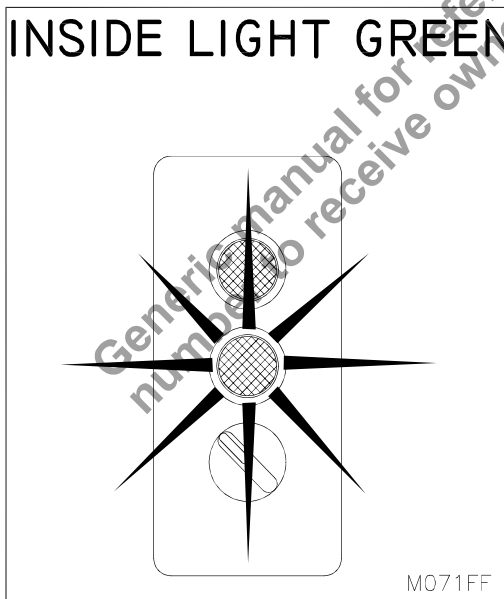

**Figure 23: Vertical Locking Arm Position**
THE TOP OF THE R.I.G. OF THE TRUCK/TRAILER MUST ALWAYS BE LOWER THAN THE OVERHANG ON THE FRONT FACE OF THE VERTICAL LOCK ARM AND LOCATED BETWEEN THE FRONT FACE OF THE VERTICAL LOCK ARM AND THE RESTRAINT BACK PLATE (See “Figure 23: Vertical Locking Arm Position” on page 21). IF THE TRUCK/TRAILER IS NOT PROPERLY ENGAGED AS PER THESE INSTRUCTIONS, LOWER THE RESTRAINT (See “WHAT TO DO IF THE R.I.G CANNOT BE ENGAGED BY THE RESTRAINT” on page 22) AND DO NOT LOAD/UNLOAD UNTIL THE TRAILER IS SECURED BY OTHER MEANS (I.E. WHEEL CHOCKS). See “Figure 28: Secure Trailer by Other Suitable Means” on page 22.
3. Visually confirm that the restraint has properly engaged the rear impact guard (see "Figure 23: Vertical Locking Arm Position" on page 21), before loading or unloading. If unable to properly engage the vehicle with the restraint, other suitable means must be used to restrain the vehicle (see "Figure 28: Secure Trailer by Other Suitable Means" on page 22).